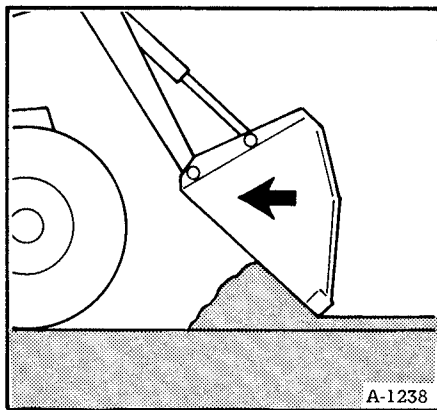

Fig. 20 Leveling
2. To level, tilt the bucket down. Raise the front slightly off the ground and drive backward (Figure 20).